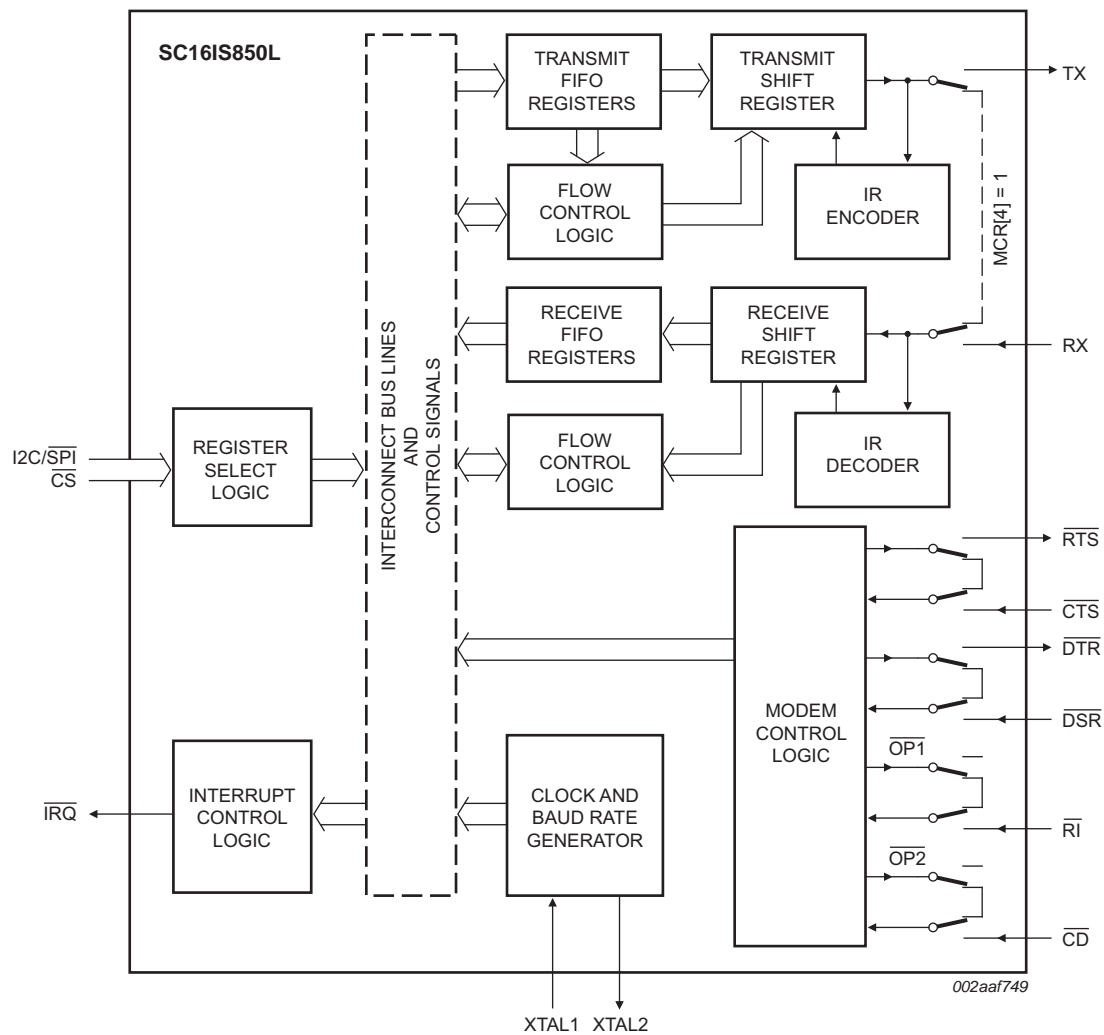

Fig 8. Internal Loopback mode diagram
The internal loopback capability allows on-board diagnostics. In the Loopback mode, the normal modem interface pins are disconnected and reconfigured for loopback internally (see Figure 8). MCR[3:0] register bits are used for controlling loopback diagnostic testing. In the Loopback mode, the transmitter output (TX) and the receiver input (RX) are disconnected from their associated interface pins, and instead are connected together internally. The $\overline{\text{CTS}}$, $\overline{\text{DSR}}$, $\overline{\text{CD}}$, and $\overline{\text{RI}}$ are disconnected from their normal modem control input pins, and instead are connected internally to $\overline{\text{RTS}}$, $\overline{\text{DTR}}$, MCR[3] ($\overline{\text{OP2}}$) and MCR[2] ($\overline{\text{OP1}}$). Loopback test data is entered into the transmit holding register via the user data bus interface, D[7:0]. The transmit UART serializes the data and passes the serial data to the receive UART via the internal loopback connection. The receive UART converts the serial data back into parallel data that is then made available at the user data interface D[7:0]. The user optionally compares the received data to the initial transmitted data for verifying error-free operation of the UART TX/RX circuits.